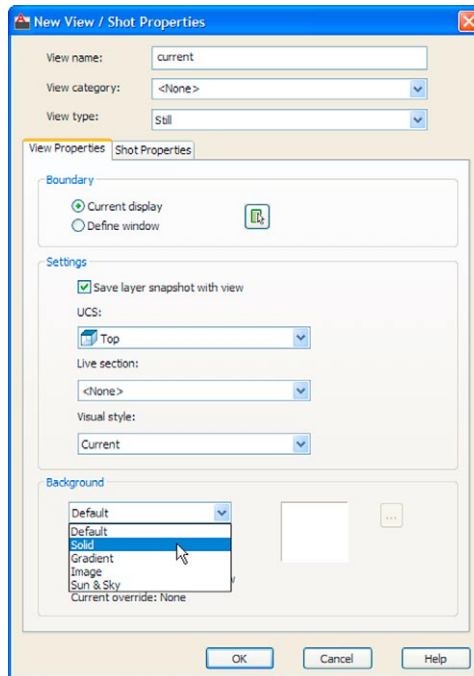
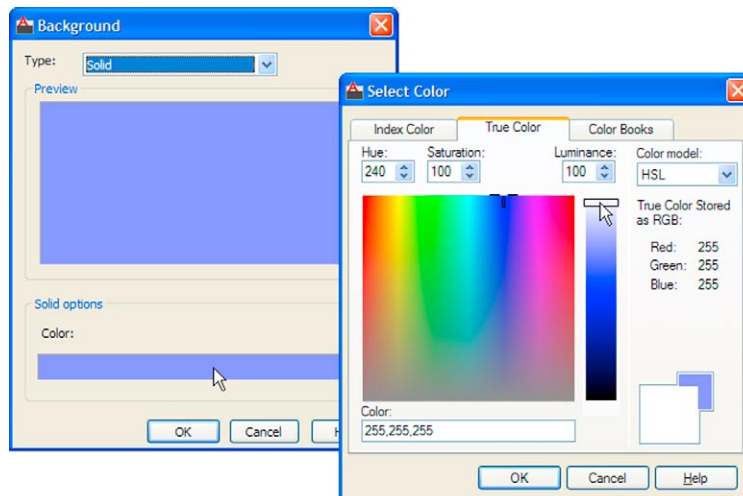

Fig. 15.16 The **New View/Shot Properties** dialog
Fig. 15.17 The **Background** dialog
2. The **New View/Shot Properties** dialog (Fig. 15.16) appears. Enter **current** (or similar) in the **View name** field. In the **Background** popup list click **Solid**. The **Background** dialog appears (Fig. 15.17).